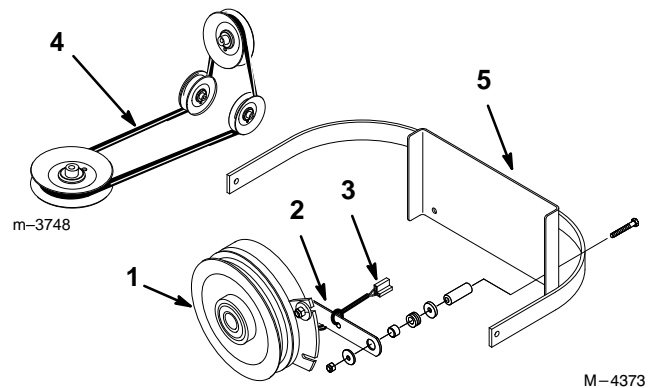

Figure 4
2. Remove the clutch retaining strap from machine frame and unplug clutch terminal from wire harness (Fig. 4).
3. Remove the PTO drive belt (Fig. 4).
3. Install clutch retaining strap and plug clutch terminal into main wire harness (Fig. 4).